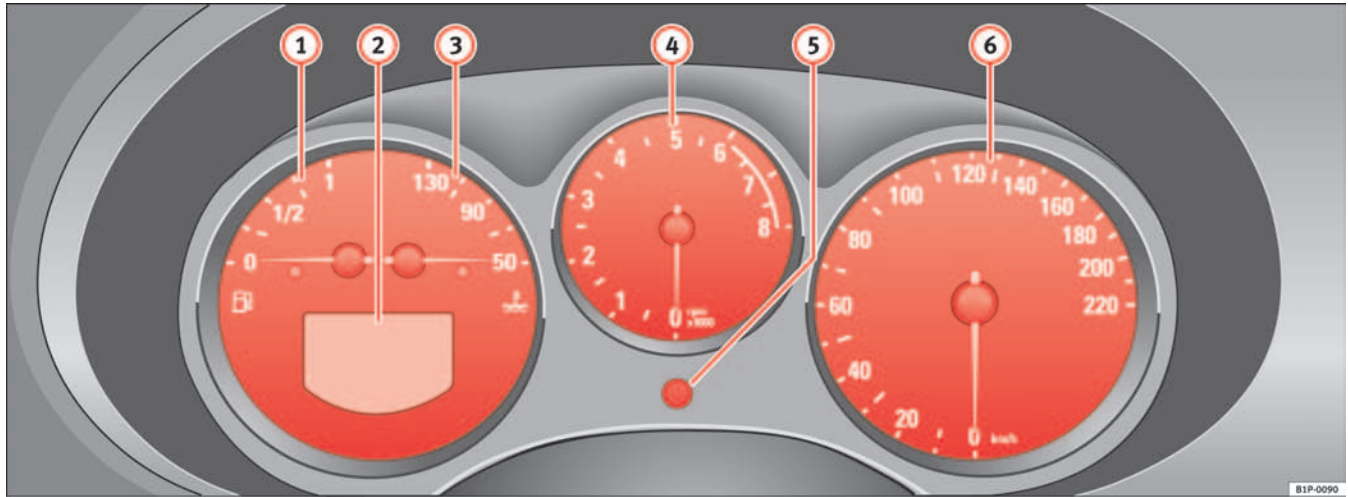

Fig. 33 Detail of the dash panel: Instruments
The start of the red zone on the dial ⇒ page 56, fig. 33  indicates the maximum engine speed which may be used briefly when the engine is warm and after it has been run in properly. However, it is advisable to change up a gear or move the selector lever to D (or lift your foot off the accelerator) before the needle reaches the red zone.
- Turn the setting knob ⇒ page 56, fig. 33  anti-clockwise to the stop to set the hour. If the knob is turned briefly anti-clockwise the clock will advance one hour further.
The right-hand counter registers the short journeys. The last digit indicates steps of 100 metres. The trip recorder counter may be reset by the reset button ⇒ page 56, fig. 33 ⑤.